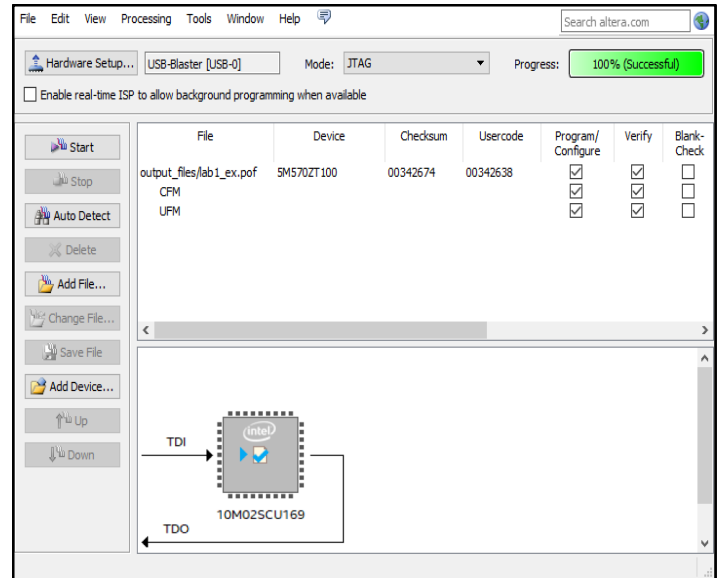

Figure 19: Programmer
- Select “Hardware Setup” and then select (double-click on) MBFTDI-Blaster. (See Figure 19.) If it does not show up, make sure your MBFTDI-Blaster is plugged into your computer and your driver is installed. Then press “Close”. If you are on a mac using a virtual machine, make sure your MBFTDI-Blaster is connected to your virtual machine. Look in your virtual machine settings for something relating to USB Connection Preferences.